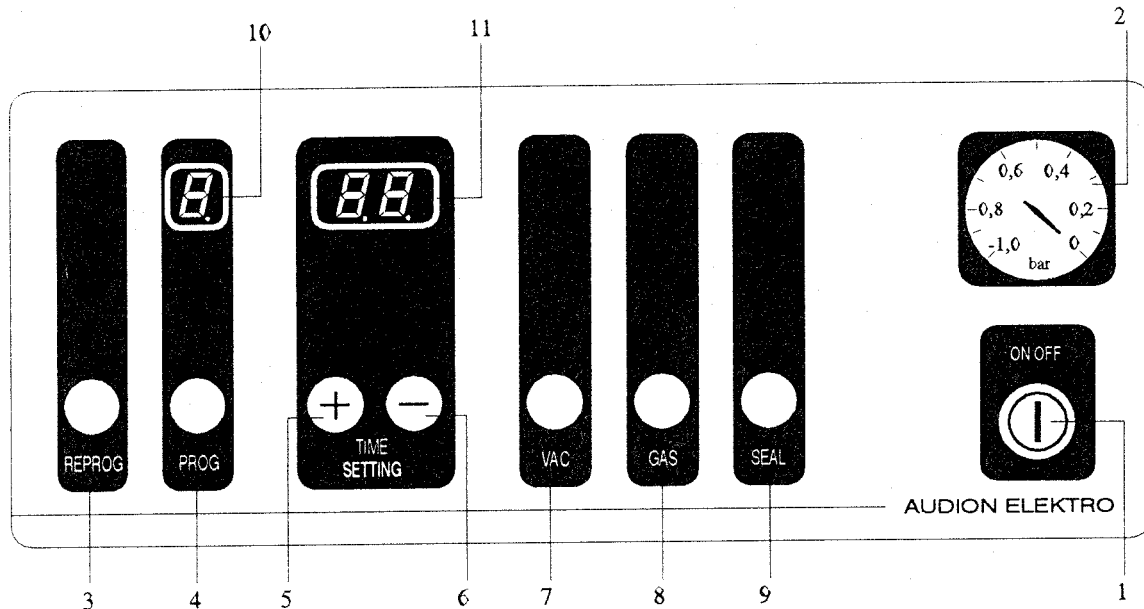

fig. 3
- Check whether the Audionvac is switched off, The mainswitch (fig. 3 pos. 1) should be at O/OFF
1. Switch on the machine by pressing the mainswitch (fig. 3 pos 1).
2. Choose the desired program , key *PROG* (fig. 3 pos 4)
During decompressing (fig. 3 pos 10)
display (fig. 3 pos 11)
After switching on the machine ca. 2 sec. display (fig. 3 pos 11) shows a number (software version). Hereafter the last used program number appears on display (fig. 3 pos 10).
3.  Press "REPROG" until the number in the display (fig. 3 pos 10) flashes
5.  Adjust the right time. Time setting is given in display (fig. 3 pos 11)
The number in display (fig. 3 pos 10) is still flashing.
On display (fig. 3 pos 11) appears a "•" in token of the program is stored in the memory.
8. After the display (fig. 3 pos 10) stops flashing the machine is ready for use.
4. Close the lid. Pulling vacuum is started. You can see time counting up in display (fig. 3 pos 11).
6.  The gas flush time is running in display (fig. 3 pos 11). If you are satisfied about the gas flush time then press "GAS". The machine starts sealing.
8. The number in display (fig. 3 pos 10) is flashing.
Display (fig. 3 pos 10) shows is the gas function is active for a certain program.